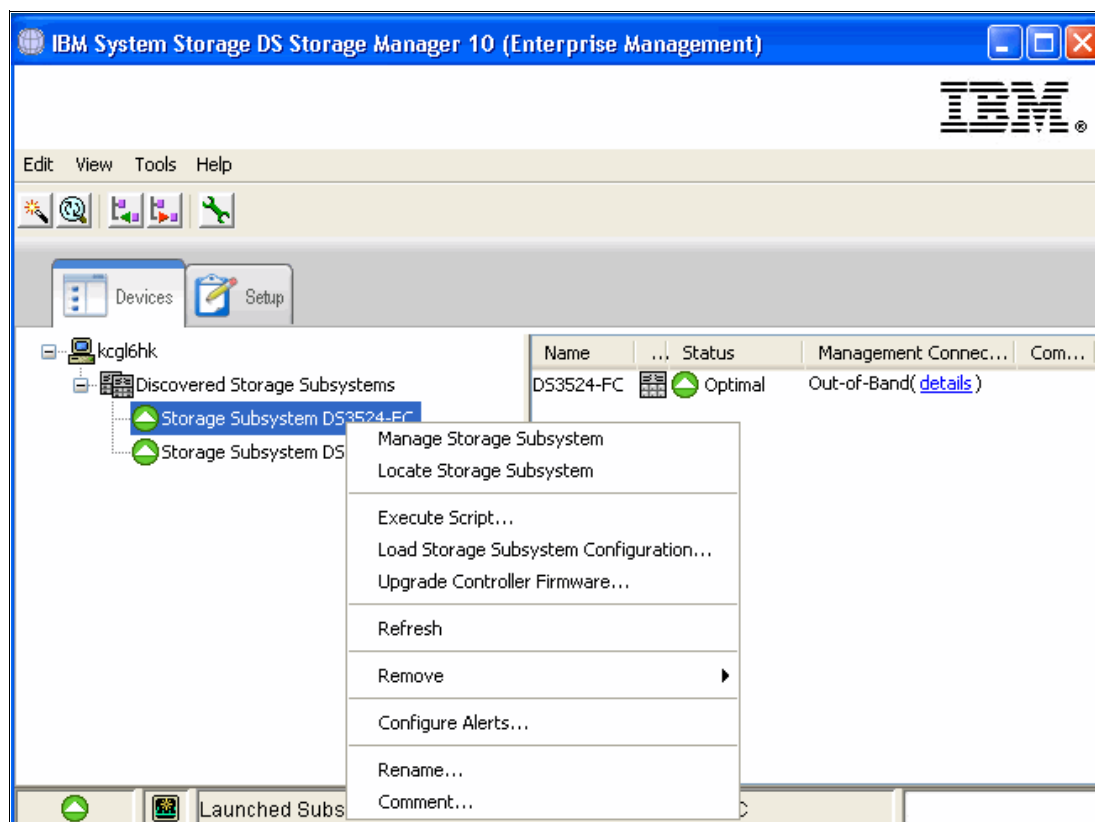

Figure 6-11 Configure Alerts for particular subsystem
- If you can see the same storage subsystem through separate paths, directly attached, and through different hosts running the host agent, you will receive multiple alerts. Right-click a specific storage system to define the alerting specifically for this storage server, as shown in Figure 6-11 on page 166.